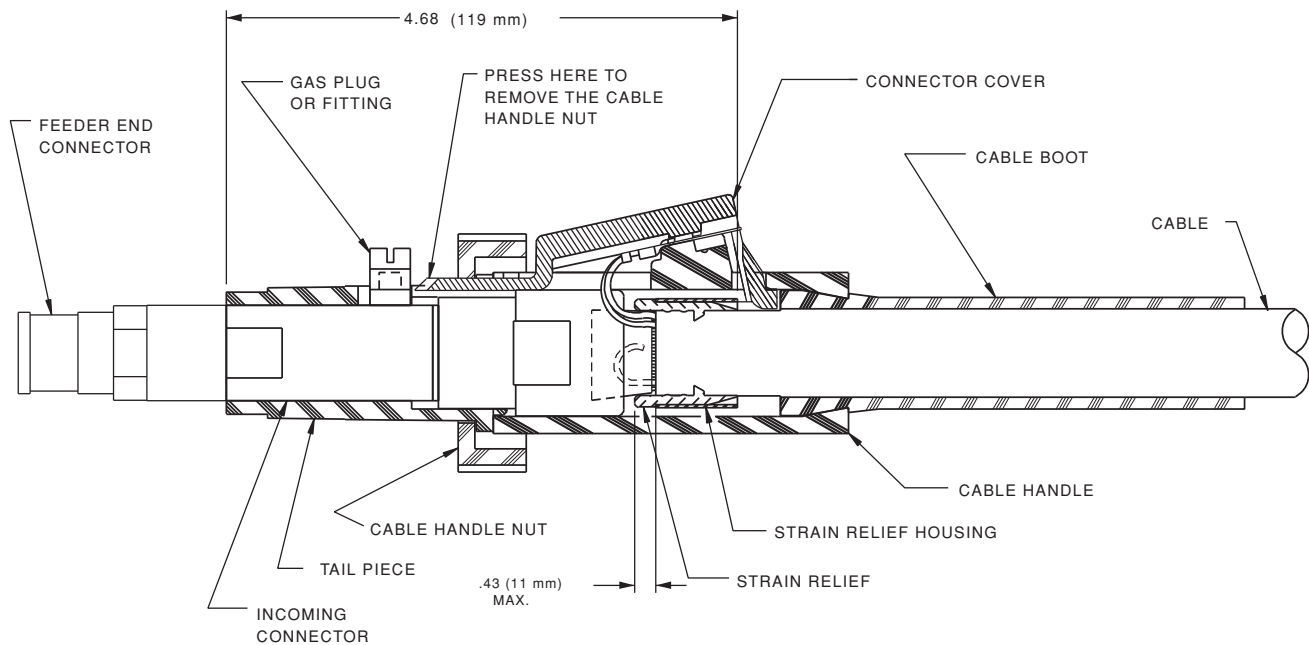

Figure 5
- b. Remove the feeder end connector, molded gas plug (or barbed fitting), cable handle nut, plastic tailpiece and connector cover (see Figure 5).
Position the plastic strain relief such that the tapered end is 4.68 (119 mm) from the incoming connector (see Figure 5). Lock into place with steel housing. Plastic strain relief may overhang cable jacket a maximum of .43" (11 mm).
- g. Position cable boot and cable handle on cable and assemble replacement control wire terminals in place on the cable handle. Insert connector cover in place. Install tailpiece and fasten to cable handle with cable handle nut. Refer to Figure 5.